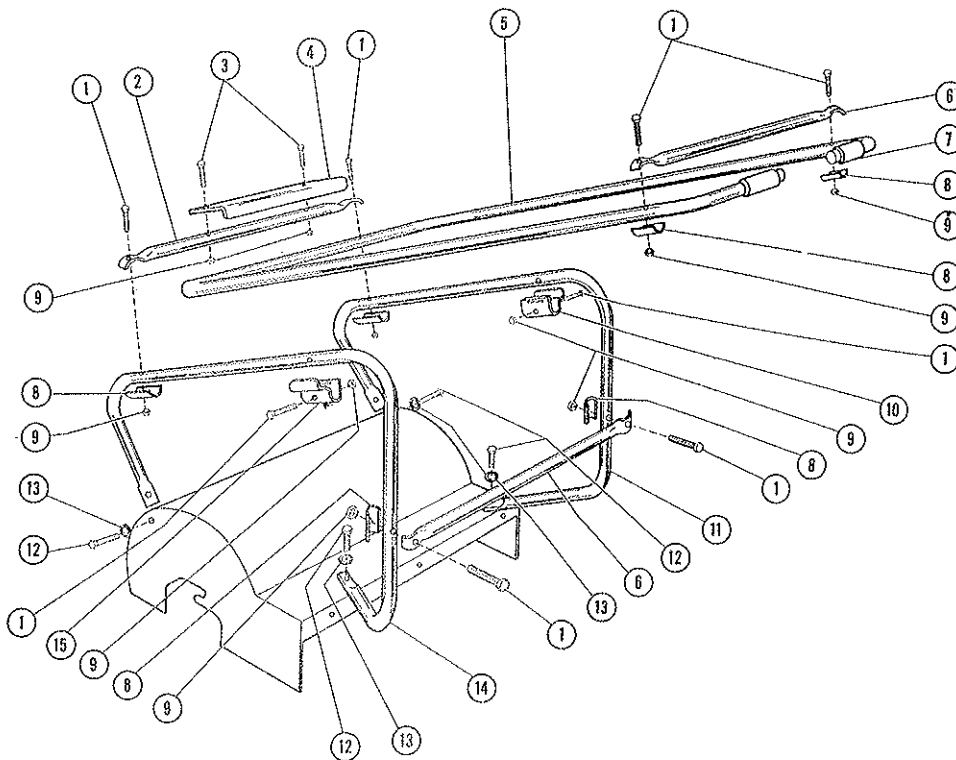

Fig. 8
2. Remove upper part of handle from individual carton. Insert lower end under anchor plate, Item 4, Fig. 8. Place handle in channels, Items 10 and 15, Fig. 8, and secure into place by turning locking cams into position.